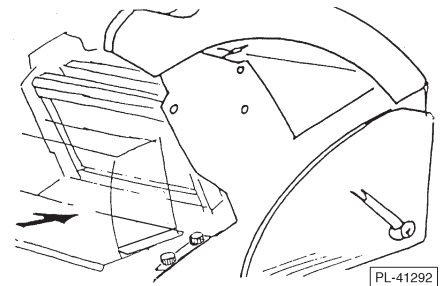

Fig. 15
- Reassemble the Front Table (Fig. 15):
Reinstall the Front Table so the blades fit in the blade slots. With the Front Table all the way forward, the slots on the sides will fit around the knurled headed screws (Fig. 15). Secure the Front Table in place by tightening the knurled-headed screws.